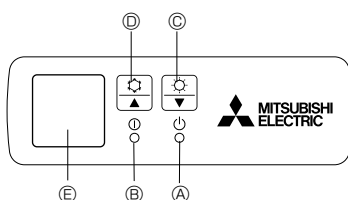

Fig. 9-1
- [Fig. 9-1] A DEFROST/STAND BY lamp